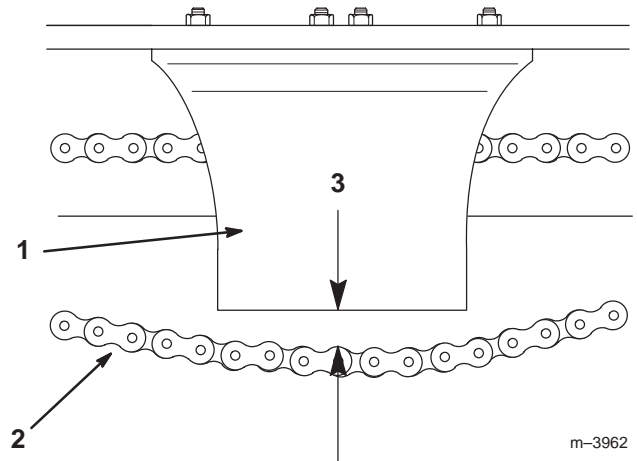

Figure 22
4. Measure the distance between the bottom of the chain guard and the lower chain span (Fig. 22). If the slack in the chain is not within 1-1/2 to 2-1/2 inches (3.8 to 6.35 cm), adjust the tension (refer to Adjusting the Tension).
6. Adjust the chain tensioning bolt until the distance between the bottom of the chain guard and the lower chain span is within 1–1/2 to 2–1/2 inches (3.8 to 6.35 cm) (Fig. 22).